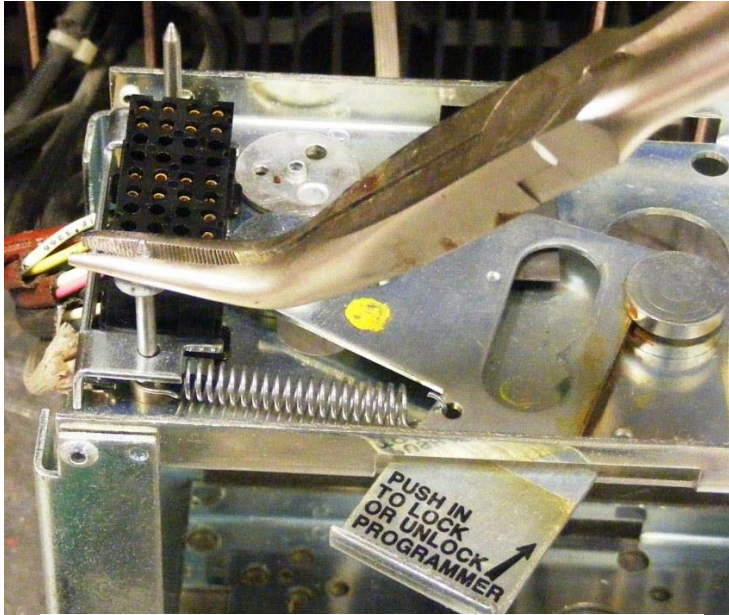

FIGURE 16, SECURING HORSESHOE WITH PUSH NUTS
5.9. Slide the *horseshoe* bracket over the positioning pins on the existing programmer mounting bracket. Take care not to pinch wires during this process. Secure *horseshoe* in place with supplied push-nuts. See figure 16. *Note: There may not be enough slack left on the wiring harnesses on some breakers. If this is the case, the programmer mount must be removed as detailed in steps 5.10 through 5.12.*